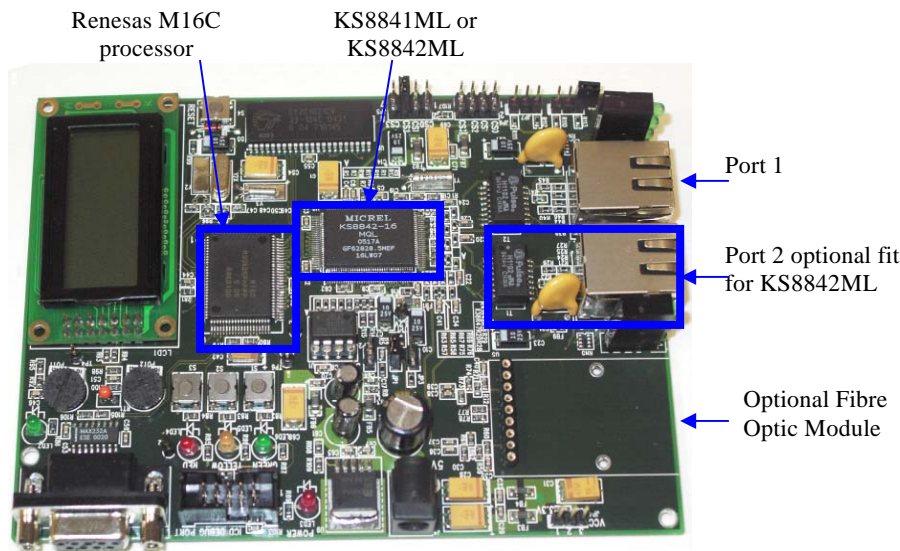

Figure 5. KS8841/2ML Dual Layout Evaluation Board.
The KS884x family offers designers the largest selection of 8-bit, 16-bit and 32-bit Generic Bus Ethernet Controllers, specifically targeted for embedded and industrial applications. LinkMD™ diagnostics are complimented by Hewlett Packard's (HP) Auto MDI/MDI-X Crossover, loop-back modes and 34 MIB counters per port for full compliant performance monitoring statistics. The KS8842ML is the industry's only 2-Port Ethernet controller and offers pin compatibility with the Single Port KS8841ML, for dual PCB layout and simple upgrading, as shown in Figure 5.